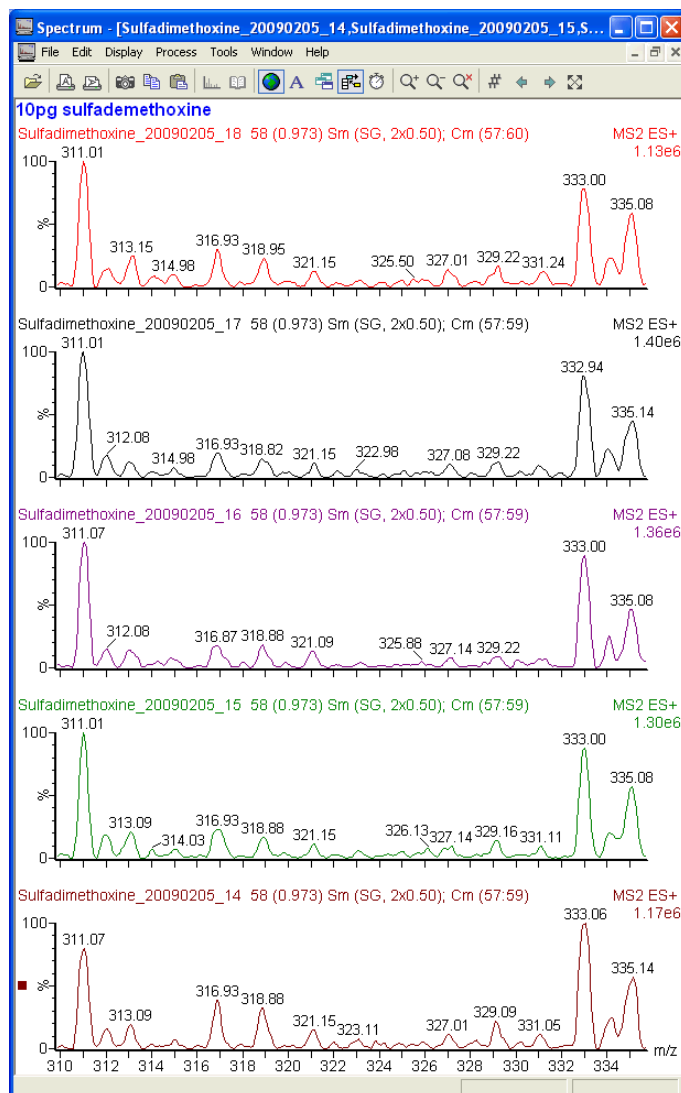

Figure 104 - Combined extracted sulfadimethoxine spectra from five injections
5. Calculate the mean sodium adduct % over the five replicates (height of m/z 333 Da as a % of m/z 311 Da). Example spectra are shown in Figure 104.